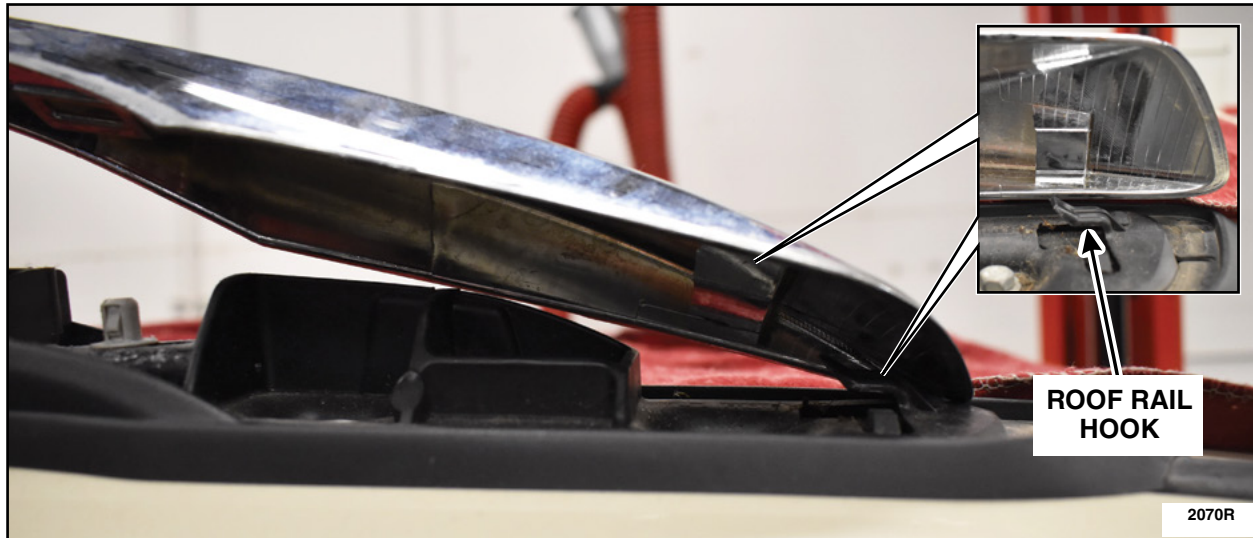

FIGURE 19
5. Install the roof rail cover starting at the front of the vehicle, slide the roof rail cover forward to engage the hook then press down to engage the clips. If warping or broken roof rail cover retaining towers were found, install the *new* roof rail cover. See Figure 19.